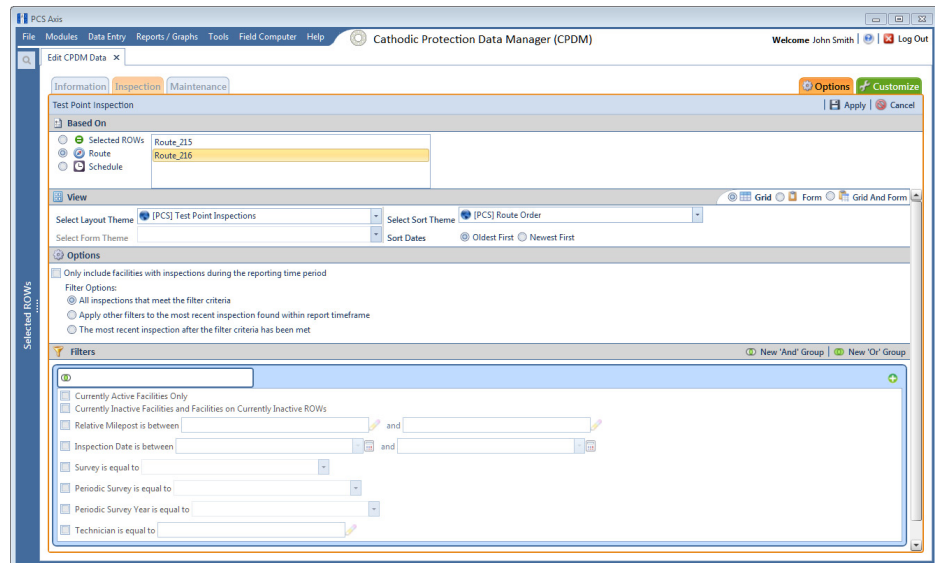

Figure 7-41. Based on Route
- 1) Click the **Route** option. Then select a route in the adjacent group box (Figure 7-41).
- a To change the grid layout theme, click the down arrow in the field **Select Layout Theme** and select a theme in the selection list (Figure 7-41).